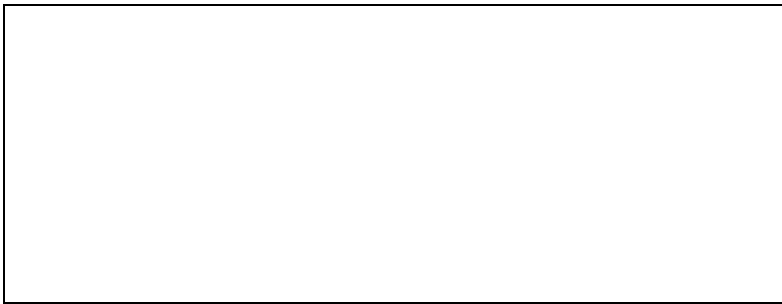

FIGURE 2. *Left*, EPC-1P; *right*, EPC-1AM circuit board
**Step 2:** Lay the EPC-1P CPU module on a flat surface with its component side up and the VMEbus P1 and P2 connectors to the right (see Figure 2). Lay the EPC-1AM circuit board to the right of the CPU module with the 96-pin female "AT bus" connector up (see Figure 2). As indicated by the dotted lines in Figure 2, flip the adapter module circuit board over the CPU module so that the female connector on the adapter module circuit board lines up with the 96 pins on the CPU module. *Do not* seat the connector fully; press the connector only about 1/4" down over the 96 pins. This spacing allows the adapter module circuit board (AMCB) to reside in the VMEbus slot adjacent to the CPU module.